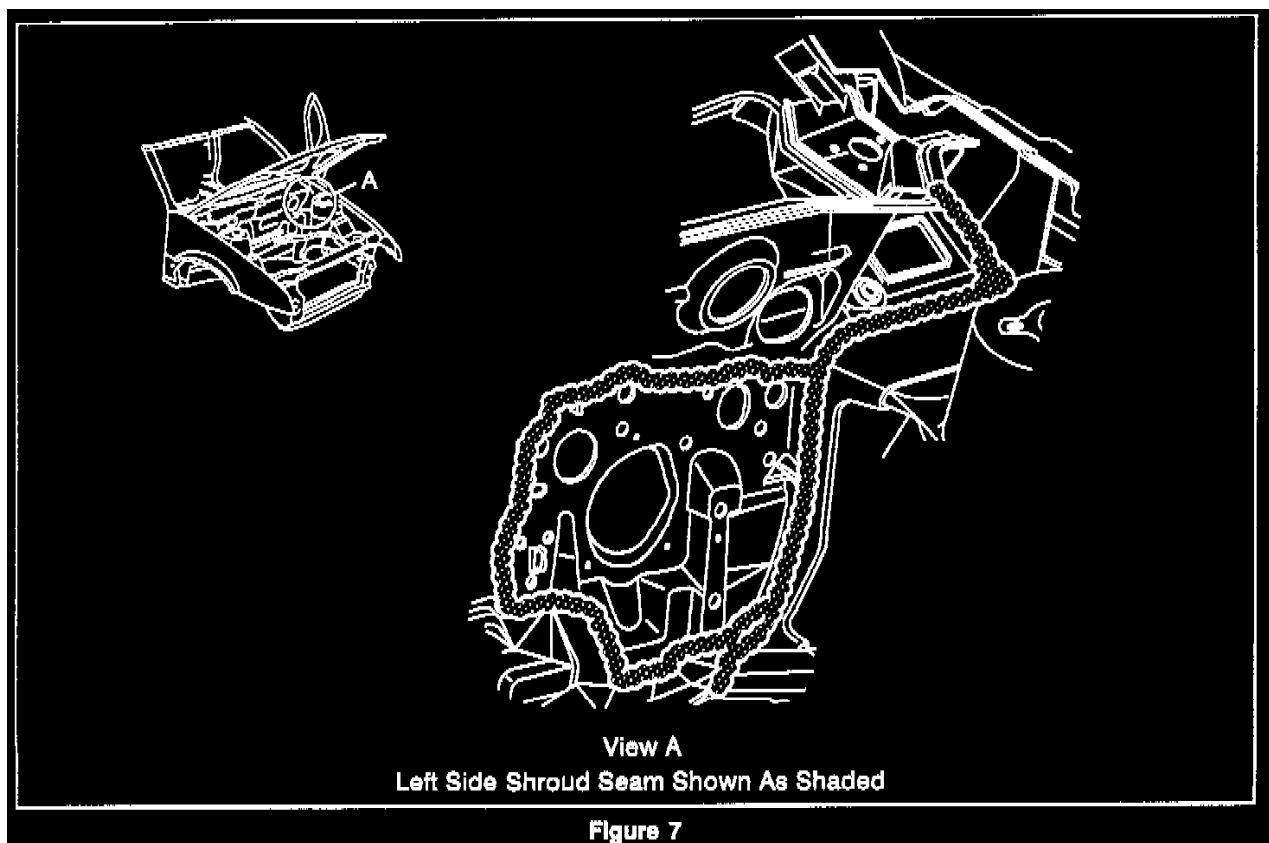

Figure 7
3. Sealer skip/void or spot weld burn through at the left side shroud seam. Refer to Figure 7.	<ol style="list-style-type: none"> <li>1. Inspect for a skip or void in the left side shroud seam sealer or for spot weld burn through.</li> <li>2. Apply clear sealer to any skip or void in the left side shroud seam sealer or to any spot weld burn through.</li> <li>3. Allow sealer to dry.</li> <li>4. Direct water over the left side shroud seam.</li> <li>5. Inspect from passenger compartment for leaks.</li> </ol>